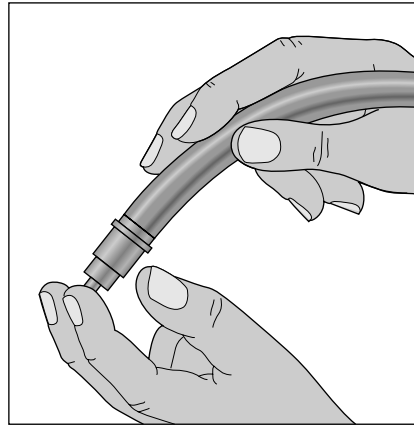

Figure 8-8: One way to check your PCV valve.
- ✔ **Method 1:** Following the instructions in the next section, remove the PCV valve from the **valve cover** with the hose still attached. Then place your finger over the open end of the hose (see Figure 8-8). If the valve's working well, you will feel strong suction. Try shaking the valve. If it's unobstructed, it should rattle. If it's fouled, the rattle will be indistinct or non-existent.